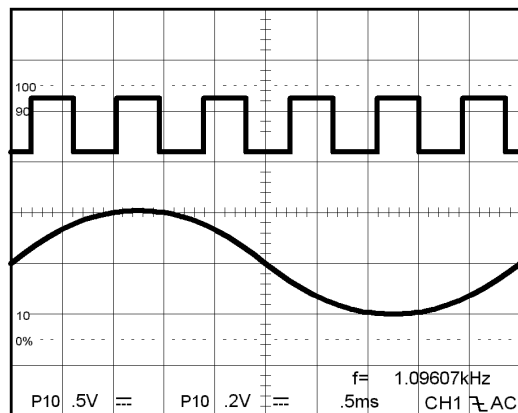
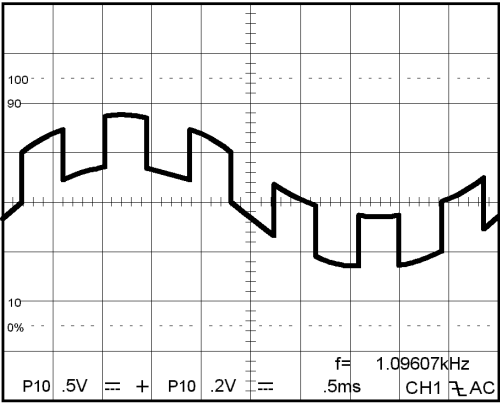

Figure 5-5 Both typical waveforms
Figure 5-6 Typical ADD waveform
- 1) Set the CH1 and CH2 on. The figure 5-5 below shows two synchronous waveforms in both modes.
- 1) Set the ADD button to ADD mode. Figure 5-6 below shows the sum of the waveforms from figure 5-5.